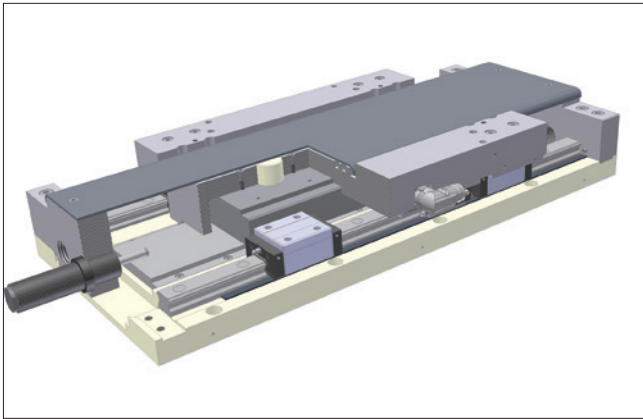

Figure 5.13 \_ AXLM with cover plate
- Optimal protection of the inside placed guiding and drive elements by the optional use of bellows or cover plates (Figures 5.13 and 5.14)